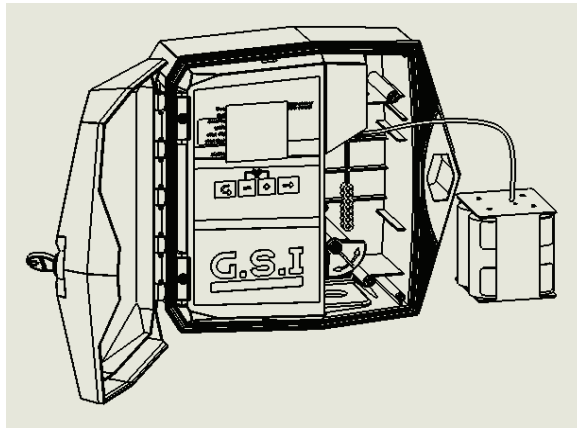

Figure 13: Battery Compartment Removed – Alkaline Version
4. Turn the battery compartment latch by 90 degrees and pull out the battery compartment (Figure 13).